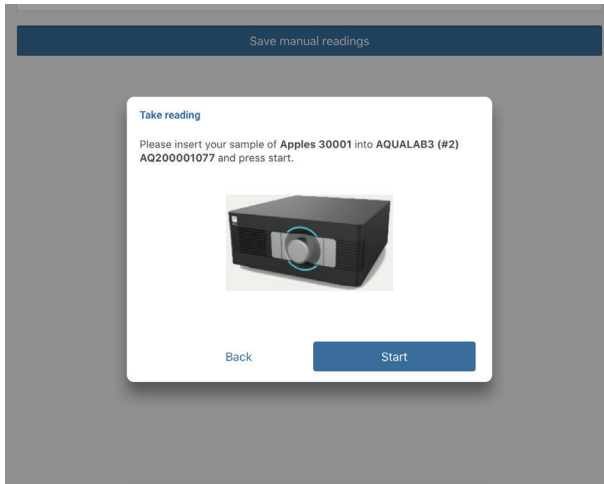

Figure 68 Take Reading popup
- b. Select the **Start** button on the Take Reading dialog box to start the reading if the sample is already loaded and the drawer knob is turned to the left (Figure 68).